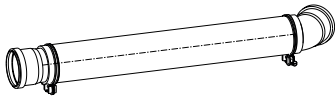

Fig. 6
- The suction hose (socket/socket 45° Fig. 6 is connected with the angled side to the suction port of the suction unit. Furthermore it ensures a correct pipe installation (pipe pointing to suction) Article number: 752/3480
- An additional suction hose, Fig. 6, item number 752/3480 is required.